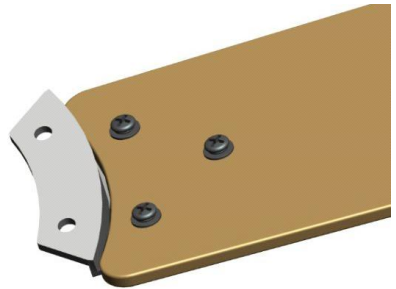

Fig 3.2
3.2 Fig 3.2 is the schematic diagram of the installed fan blade bracket. Repeat these steps for the remaining blades. Make sure all the screws are firmly tightened.